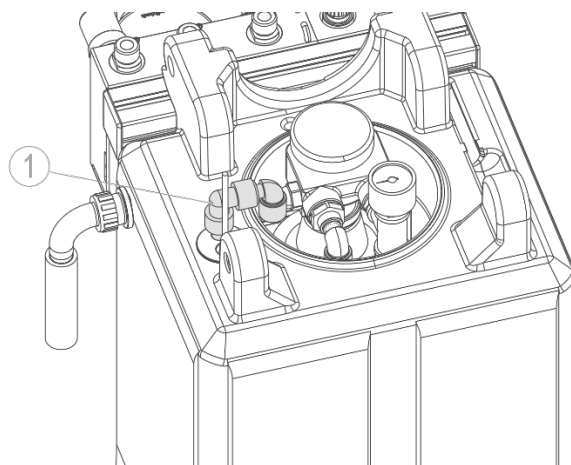

Fig. E-1: Permeate line AVRO TS
Disassemble the permeate line from the collection tank (refer to figs. E-1, E-2 no. 1) and route it to the drain in a separate hose.
- Reinstall permeate line on collection tank (refer to fig. E-1).